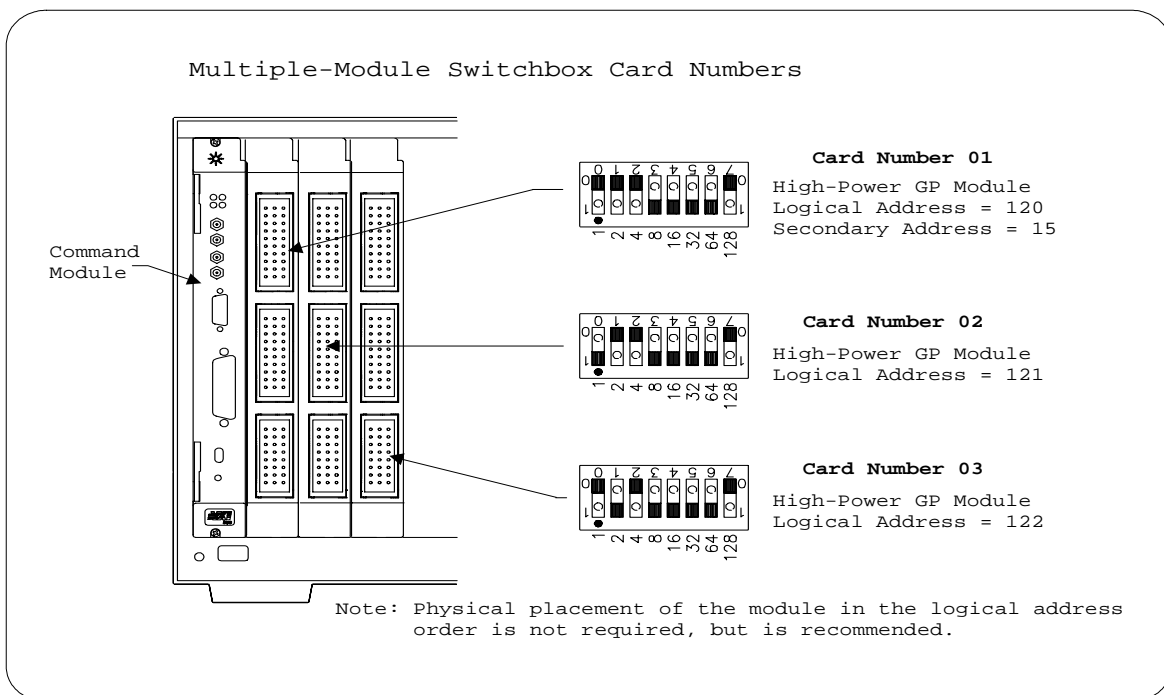

Figure 1-2. Multiple-Module Switchbox Instrument
- **Multiple-module Switchbox.** In a multiple-module switchbox configuration, modules are set to successive logical addresses. The module with the lowest logical address is always card number 01. The module with the next successive logical address is card number 02, and so on. Figure 1-2 illustrates the card numbers and logical addresses of a typical multiple-module switchbox installed in an Agilent C-Size mainframe with an Agilent command module.